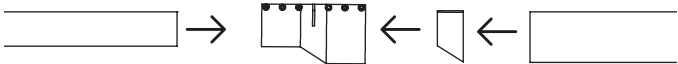

Figure 2
6. Flip unit over again and make sure tubes are sitting flush against the **Coupler Insert**. Tighten down the remaining coupler bolts. Tubes should be secure in coupler with no movement. Be sure to not overtighten. *See Figure 2*